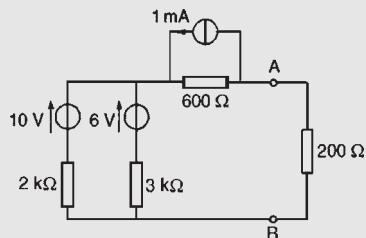
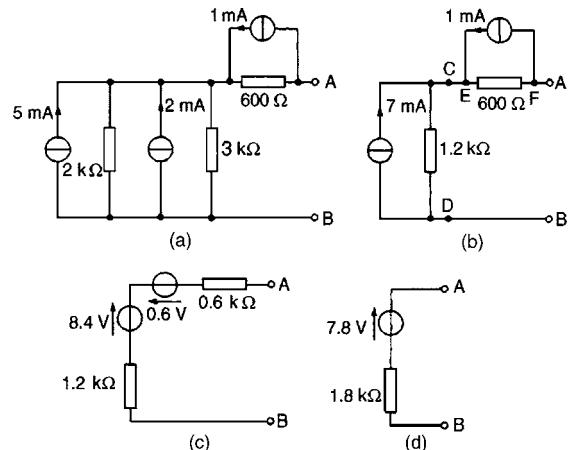

Figure 13.74
Figure 13.75
**Problem 21.** Determine by successive conversions between Thévenin and Norton equivalent networks a Thévenin equivalent circuit for terminals AB of Fig. 13.74. Hence determine the current flowing in the  $200\ \Omega$  resistance.
Thus the network of Fig. 13.74 converts to Fig. 13.75(a). Combining the  $5\text{ mA}$  and  $2\text{ mA}$  current sources gives the equivalent network of Fig. 13.75(b) where the short-circuit current for the original two branches considered is  $7\text{ mA}$  and the resistance is  $(2 \times 3)/(2 + 3) = 1.2\text{ k}\Omega$
Both of the Norton equivalent networks shown in Fig. 13.75(b) may be converted to Thévenin equivalent circuits. The open-circuit voltage across CD is  $(7 \times 10^{-3})(1.2 \times 10^3) = 8.4\text{ V}$  and the resistance 'looking-in' at CD is  $1.2\text{ k}\Omega$ . The open-circuit voltage across EF is  $(1 \times 10^{-3})(600) = 0.6\text{ V}$  and the resistance 'looking-in' at EF is  $0.6\text{ k}\Omega$ . Thus Fig. 13.75(b) converts to Fig. 13.75(c). Combining the two Thévenin circuits gives  $E = 8.4 - 0.6 = 7.8\text{ V}$  and the resistance  $r = (1.2 + 0.6)\text{ k}\Omega = 1.8\text{ k}\Omega$
Thus the Thévenin equivalent circuit for terminals AB of Fig. 13.74 is as shown in Fig. 13.75(d)